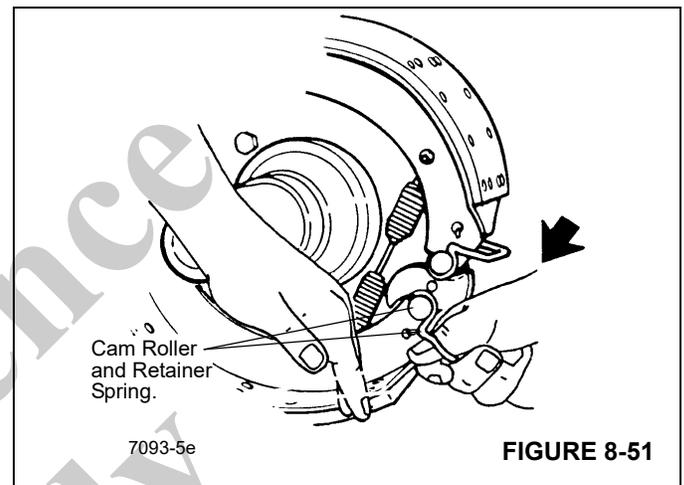

FIGURE 8-51
1. Push down on the bottom brake shoe and pull on the roller retaining clip to remove the bottom cam roller (Figure 8-51).
2. Lift the top shoe and pull on the roller retaining clip and remove the upper cam roller (Figure 8-51).